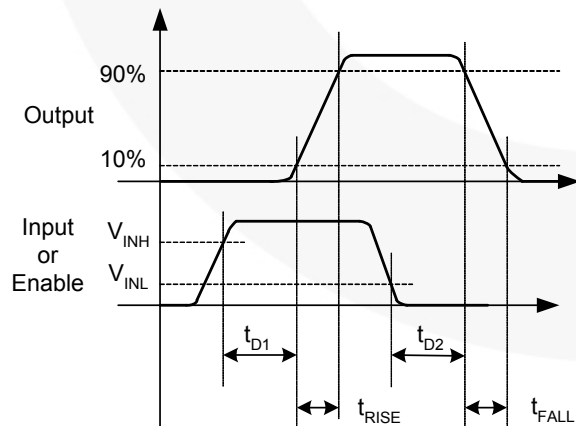
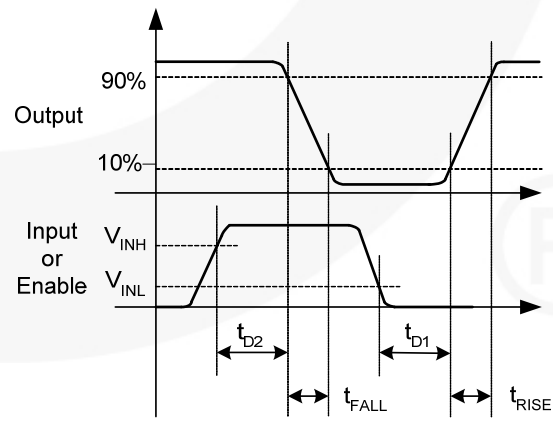

Figure 5. Non-Inverting
Figure 6. Inverting
11. See the *Timing Diagrams of Figure 5 and Figure 6*.